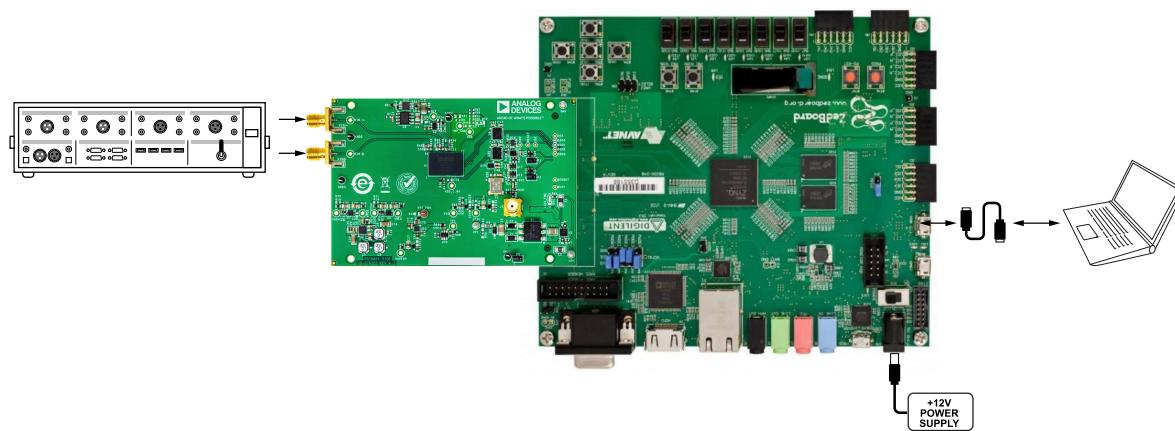

Figure 8. Evaluation Board Setup
Figure 8 shows a diagram of the evaluation setup for the EVAL-ADAQ4216-FMCZ board.
2. Connect the EVAL-ADAQ4216-FMCZ board and the Zedboard to the PC, as shown in Figure 8 and in the Evaluation Board Setup Procedure section.